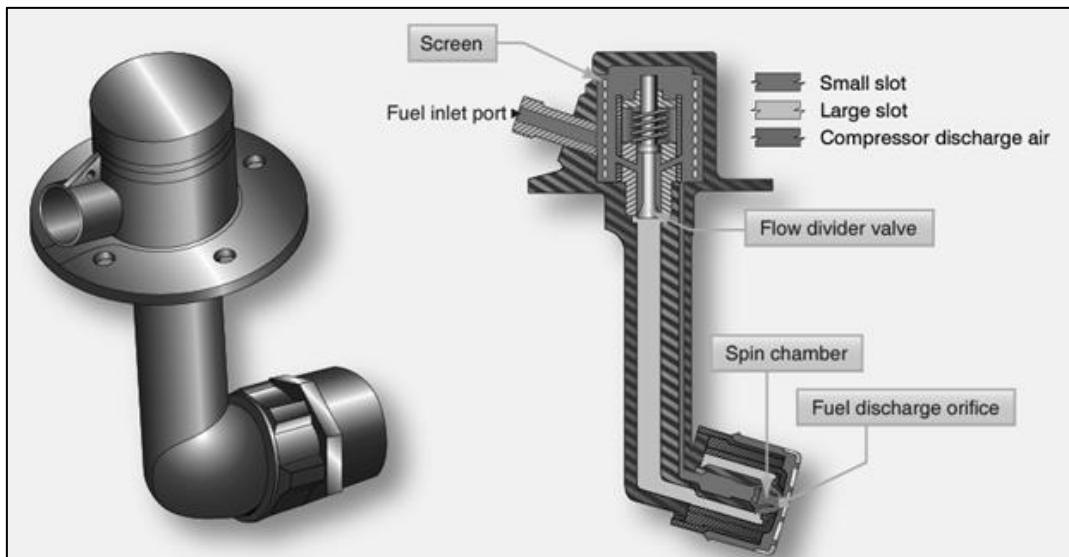

Figure Q2. Duplex-Type Fuel Nozzle (FAA, USA)
2. You are working as a manufacturing process engineer in a large company that produces many different components used in gas turbine engines for the aerospace industry. One of your components is a duplex-type fuel nozzle (Figure Q2) and is currently made from several different metallic components which are fabricated into a single final piece using welding and fasteners. The part's major dimensions are 450 x 200 x 150 mm.